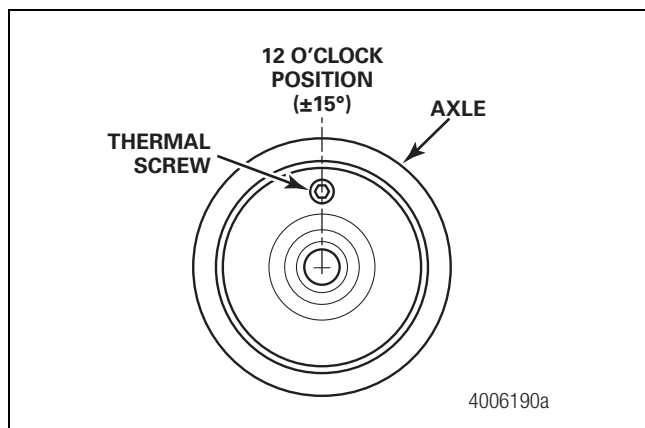

Figure 2.20
15. If you are installing a press plug fitted with a thermal screw for a ThermALERT™ system, install the plug with the thermal screw set at the 12 o'clock ($\pm 15^\circ$) position. Figure 2.20.
- **If the plug is fitted with a thermal screw for a ThermALERT™ system:** Ensure that the thermal screw is located UP at the 12 o'clock ($\pm 15^\circ$) position when the axle is installed under the trailer. Figure 2.20.